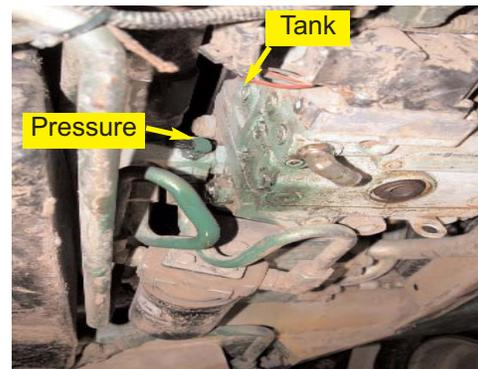

Figure 3b. Pressure and tank hose location.
- b. The pressure connection is the test port at the bulk fitting on the side of the pumps. Remove the test port fitting and install the adapter fitting (H). The tank connection port is in the side of the pump housing. Remove the plug fitting and install the adapter fitting (H). (Figure 3b. and 3c.)